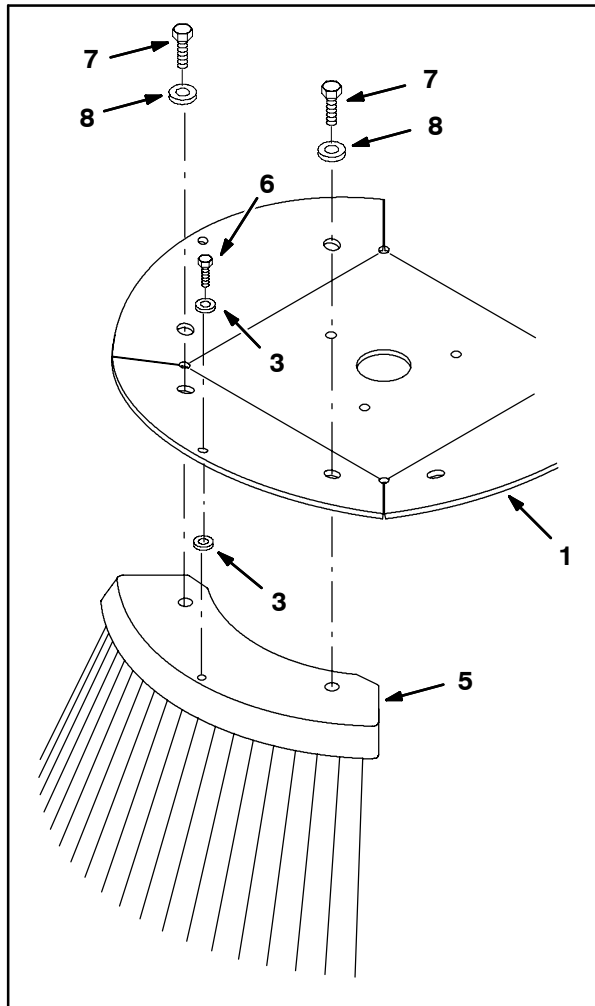

FIG. 2
1. Use two hex screws (7), two flat washers (8), one hex screw (6), and two flat washers (3) to attach each of the four brush segments (5) to the brush segment plate (1). Refer to Fig. 2.